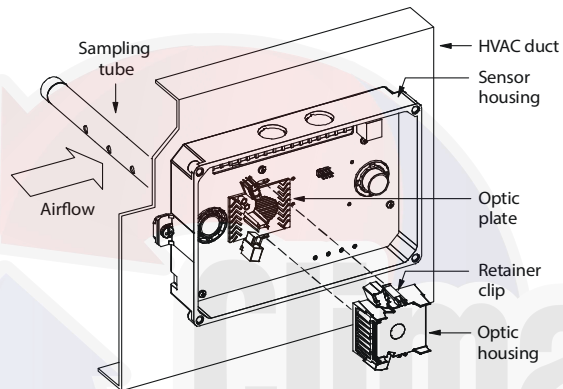

Fig. 54 – Sensor Cleaning Diagram
1. Disconnect power from the duct detector then remove the sensor's cover. See Fig. 54.